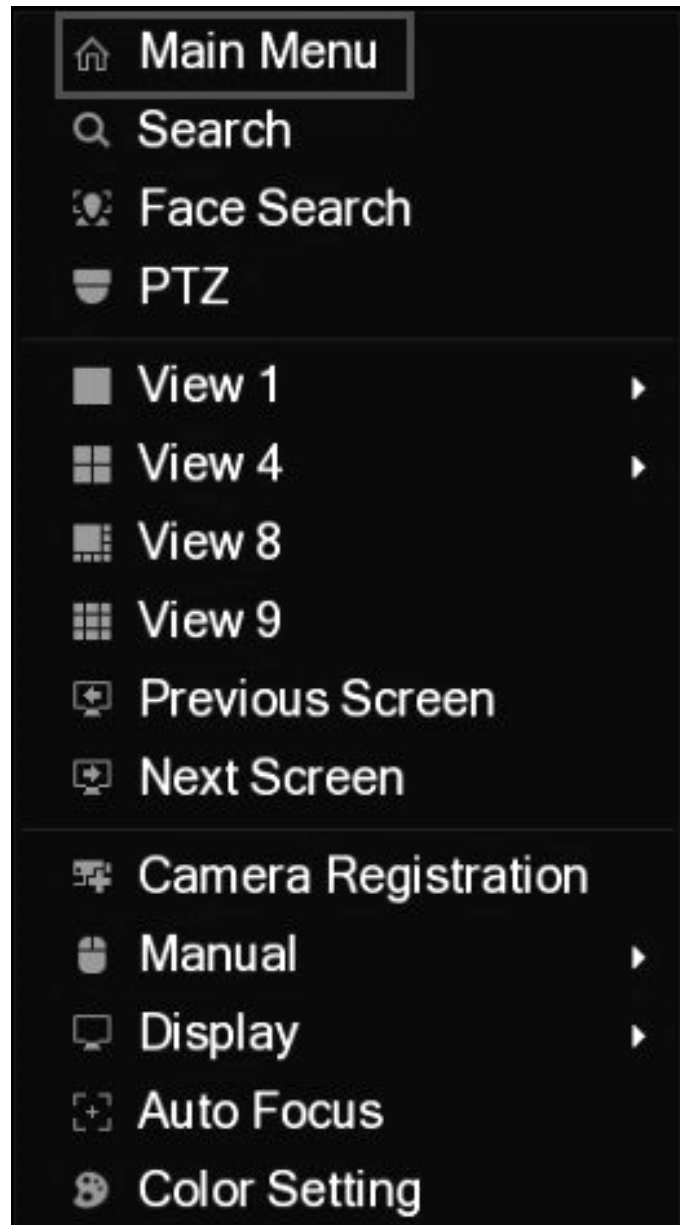

Figure 4–1
Step 1 In the live view screen interface, right-click anywhere on the screen. The shortcut menu is displayed. See Figure 4–1.